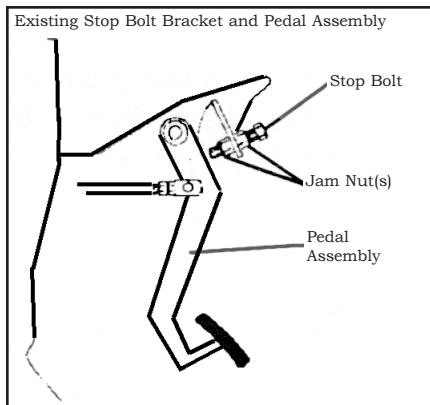

Figure 1
Step 1: Locate pedal assembly and existing **STOP BOLT BRACKET** on vehicle, See **FIGURE 1**.